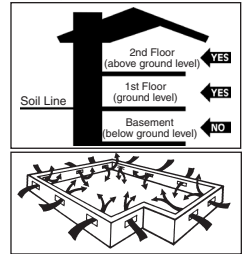

Figure 1
- Crawl spaces must be a minimum of 18" (46 cm) from the ground to the underside of the joists. A ground cover of 6-20 mil black polyethylene film is highly recommended as a vapor barrier with joints lapped 6" (15 cm) and sealed with moisture resistant tape. The crawl space should have perimeter venting equal to a minimum of 1.5% of the crawl space square footage. These vents should be properly located to foster cross ventilation (Figure 1). Where necessary, local regulations prevail.